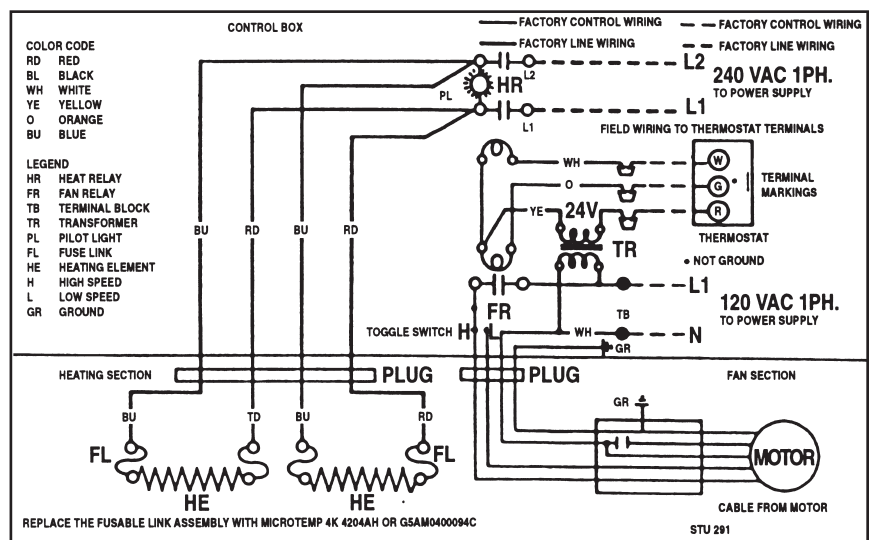

Figure 5 - Wiring Diagram
4. Run proper size copper power supply conductors from the field power supply disconnects, (supplied by others) with insulation rated minimum 75°C (167.0°F). One set of conductors from 240VAC, 50/60Hz supply source shall be routed through the 3/4 inch conduit knockout, using a suitable knockout connected to the contactor contact terminals marked L1, L2. A separated set of supply conductors from a 120VAC, 50/60 Hz supply source shall be routed through 1/2 inch knockout using a suitable knockout connector, for connection of the fan circuit. The fan supply conductors are to be marked L1, N (see diagram on inside heater wiring compartment cover and Figure 5).